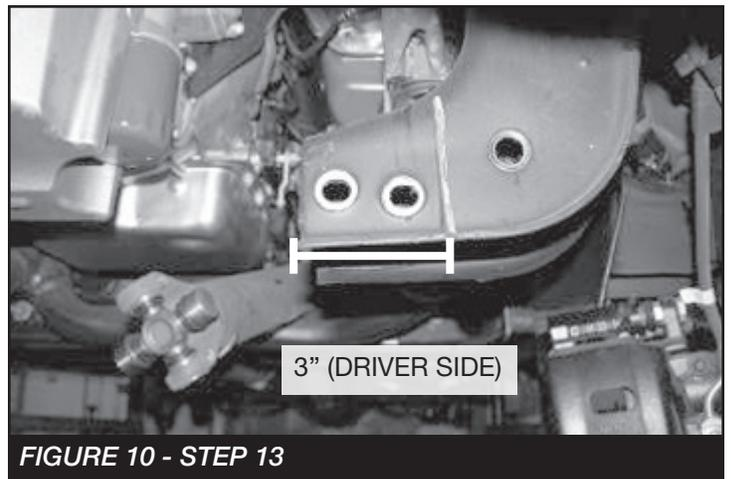

FIGURE 10 - STEP 13
13. Locate the rear driver lower control arm mount on the frame. Measure 3" from the inside edge of the mount toward the frame and mark with a paint pen. Use a sawzall and cut the mount from the frame. **SEE FIGURE 10**